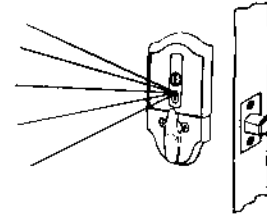

Figure 6
3. To check the interior LockMinder™ LED, lock the deadbolt from the inside. The interior LED seen through the battery cover should illuminate immediately. See Figure 6.